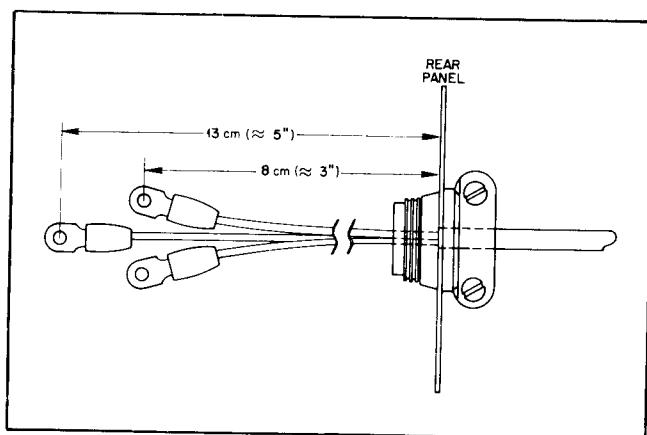

Figure 2-2. Power Cord Preparation
- b. Prepare the power cord as shown in Figure 2-2 and insert the cord through the strain relief on the AC Filter Assembly.